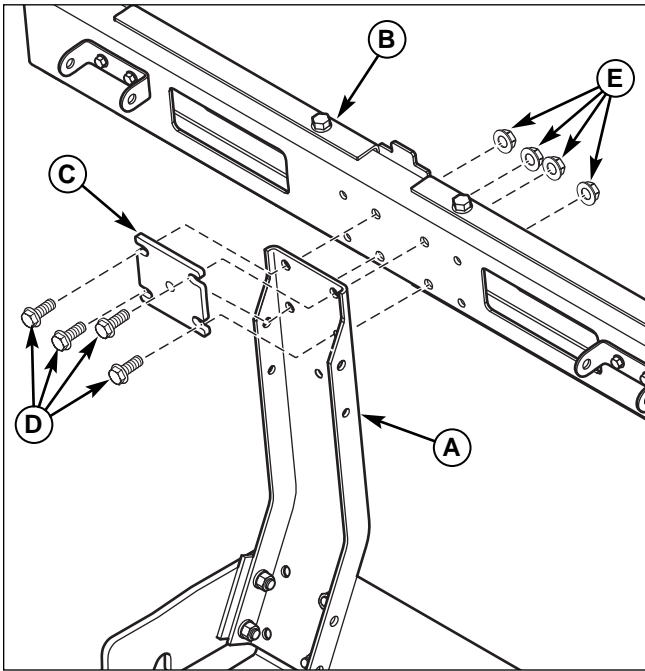

**Figure 9. Install Handle to Tube**
1. Install handle (A, Figure 9) using 1/4-20 x 1/2 screw and 1/4-20 locknut (B) for rear hole. Use 1/4-20 x 1 screw (D) as shown. Tighten hardware.
2. Install strap (E) to screw (D) securing with 1/4-20 locknut (F).